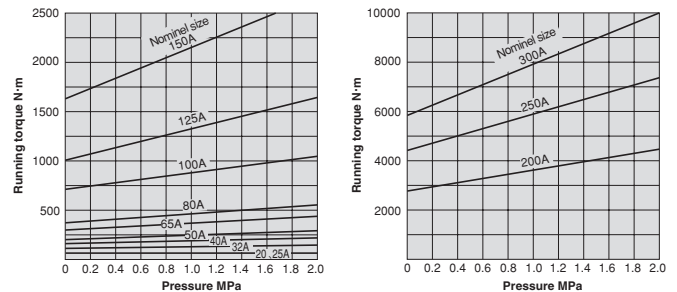

Fig. 12 Running torque of the UB-3·13 joints
- T : Running torque of UB joint (See Fig. 12.) [N·m]
T = 400 N·m (running torque of joint: See Fig. 12.)